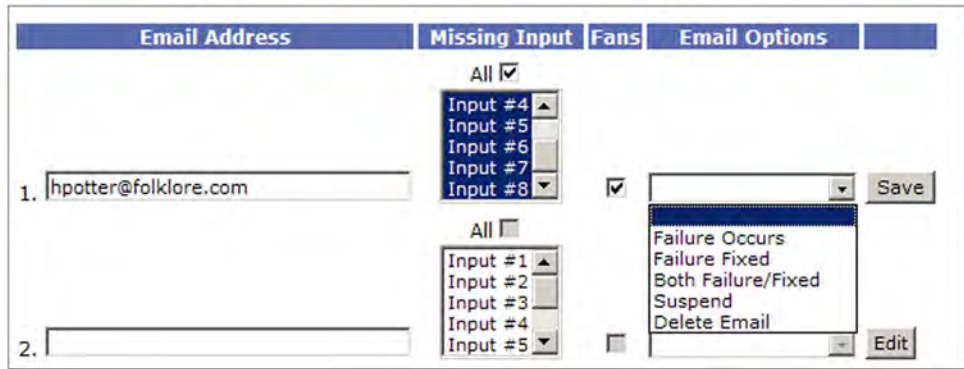

Figure 111. Email Options Menu on the Email Settings Page
- In the associated **E-Mail Options** drop-down box, select whether the recipient is to be notified by e-mail of failures, fixes, both, not notified, or to be removed from the e-mail list (see figure 111 on the next page).